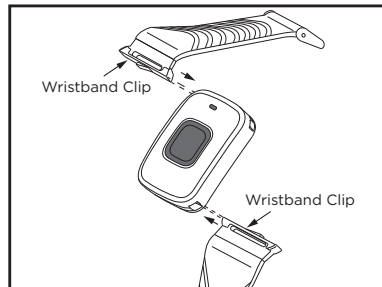

Figure 2: Wristband Mounting
The 1148 Personal Pendant can be placed on a wristband or lanyard. The wristband or lanyard clips are only inserted in one direction. See Figures 2 and 3. The wristband clips can be removed by pulling the clip in the opposite direction. Once inserted the lanyard clips cannot be removed.
1. Slide the wristband clip into the slots. See Figure 2.